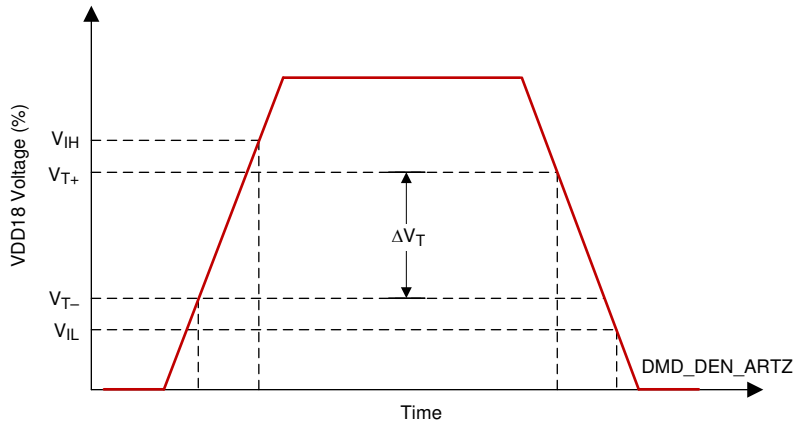

图 6-9. LVCMOS Input Hysteresis
(1) See Figure 6-9 and Figure 6-10 LVC MOS Rise, Fall Time Slew Rate Figures. Specification is for DMD_DEN_ARSTZ pin (LVC MOS).